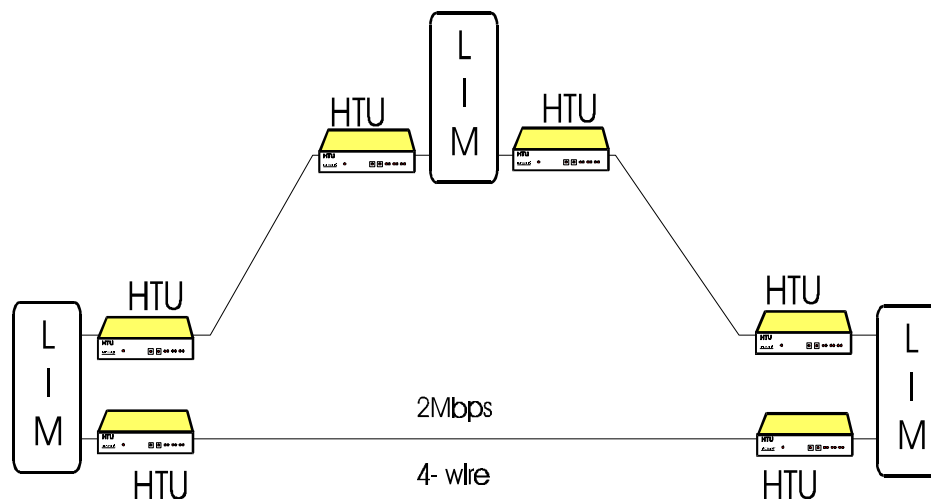

Fig.2, typical application
- PABX interconnections e.g. MD110 - LIM (see Fig.2)